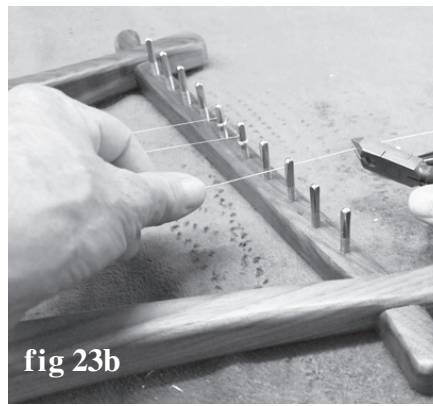

fig 23b
A) Find the two middle strings -- #5 (D4) & #6 (E4) -- and stretch them out past the two middle tuning pins. Cut them about 3 inches beyond the pins, as shown (fig 23b).